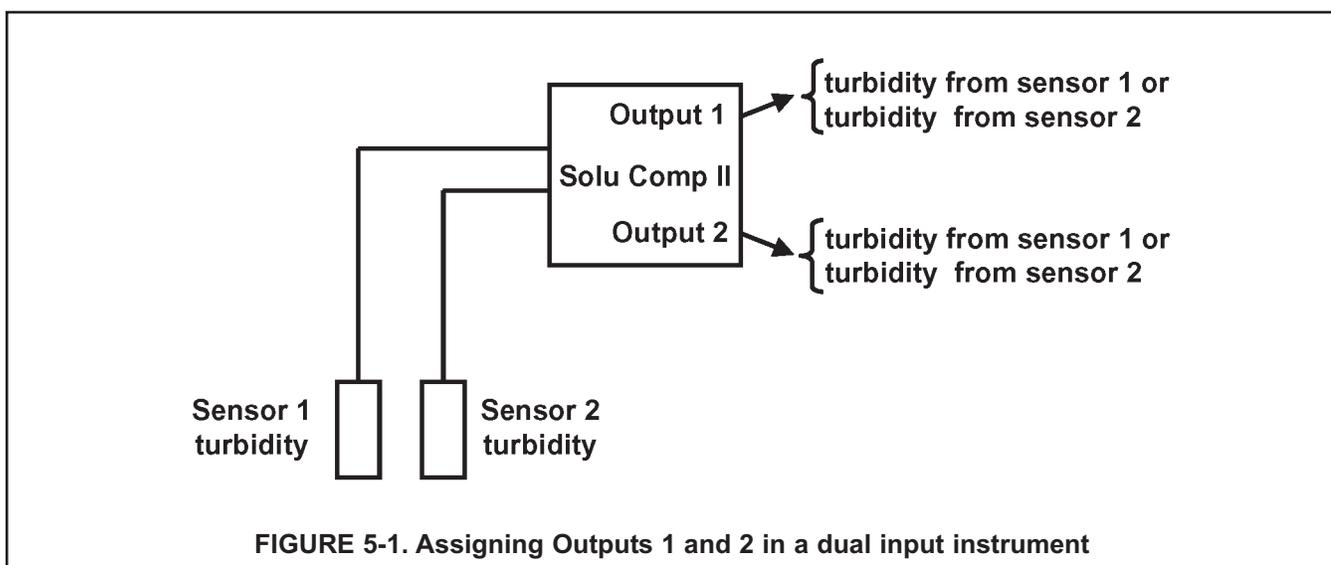

FIGURE 5-1. Assigning Outputs 1 and 2 in a dual input instrument
2. ASSIGNING OUTPUTS. Figure 5-1 shows the ways in which the outputs can be assigned in a dual input analyzer. The single input analyzer has only one output.